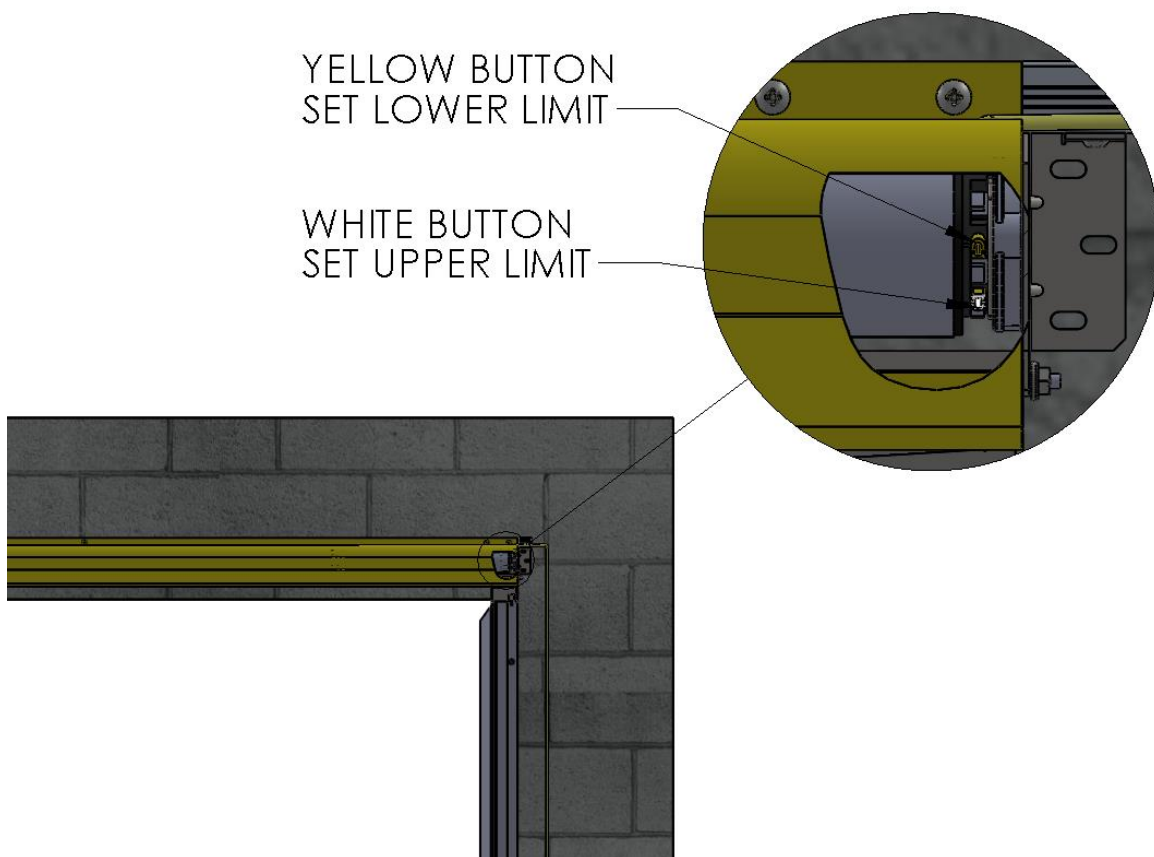

Figure 3: 600 SERIES DOOR RAISE/LOWER DOOR ADJUSTMENT
- Always, FIRST JOG THE DOOR DOWN toward the closed position. Observe where the lower limit stops the door and adjust accordingly by depressing the upper button at the end of the motor. (See Figure 3) Run the door partially upward, stop, and then close again a few times up and down to make finer adjustments for the closed position as desired.
- Now open the door and note the upper stop point. Adjust in the same way using the lower button at the end of the motor. (See Figure 3) Repeat a few times until the desired upper stop position is finally achieved.